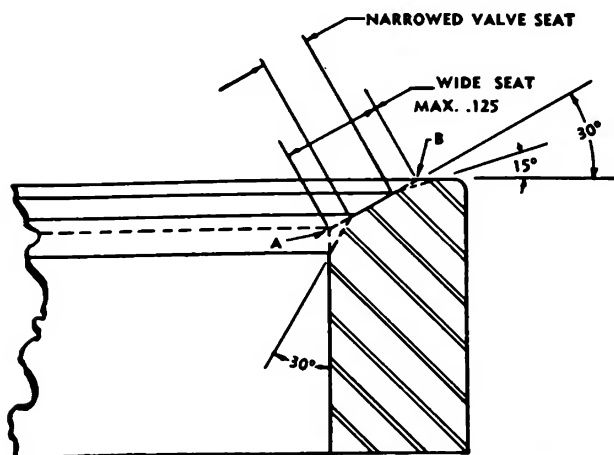

Fig. 3-17. Cross section valve seat insert
VALVE SEATS: 1. If inspection has shown that valve seat inserts are loose, or if valve seats are wider than .125 and can not be narrowed sufficiently as shown in Fig. 3-17, new valve seat inserts should be installed. Remove old valve
5. If ground seat is wider than maximum $1/8$ inch, stock can be removed from points "A" and "B" with specially dressed stones in a valve seat grinder. Narrowing should not extend beyond the chamfer that is provided for peening. See Fig. 3-17.